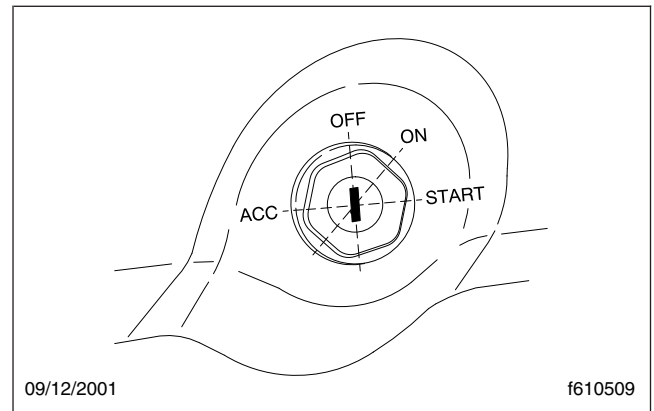

Fig. 19.1, Ignition Switch Positions
4. Ensure that the transmission shift control is in Neutral (N), Park (P), or the Park Brake (PB) position.
5. Without starting the engine, turn the ignition switch to the ON position. See **Fig. 19.1**. The electronic gauges on the instrumentation control unit (ICU) will complete a full sweep of their dials, the warning and indicator lights will illuminate, and the buzzer will sound for three seconds.